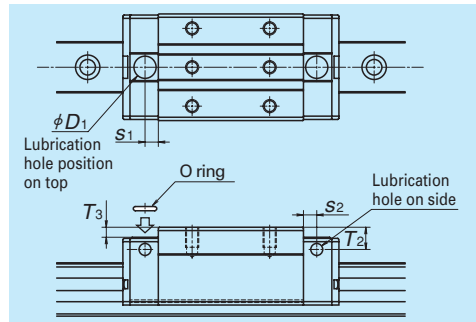

Fig.12 Top and side lubrication hole positions
- A lubrication hole can also be provided on the top of the end cap. Fig.12 and Table 8 show the mounting position.